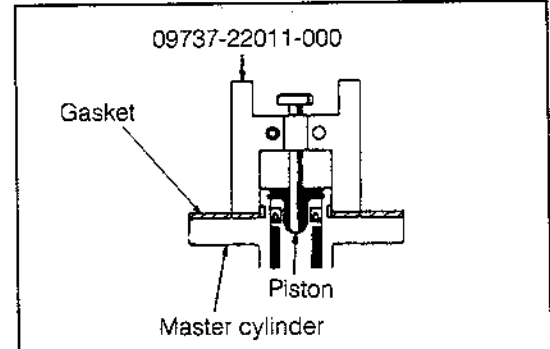

Fig. 8-54
- (1) Set the SST in such a way that the SST rod makes a light contact with the piston of the master cylinder, as indicated in Fig. 8-54.